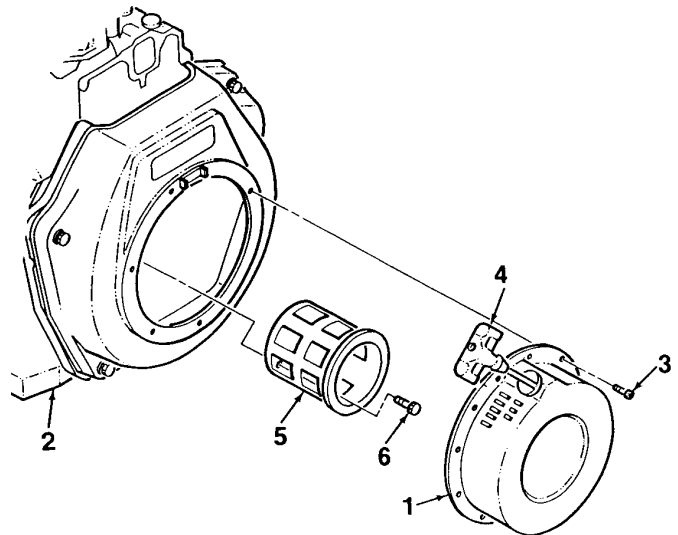

Figure 3-2. Recoil Starter Removal
1. Remove recoil starter assembly (1, Figure 3-2) from flywheel housing (2) by removing four screws (3).
2. Remove plunger (5) from cylinder block by removing three screws (6).
1. Inspect recoil starter assembly (1, Figure 3-2) and plunger (5) for cracks, deformation, or obvious damage. Replace case if damaged.
2. Inspect starter rope for cuts, tears, or frayed strands. Ensure tee handle (4) is securely attached. Replace starter assembly if any component is damaged.
1. Install plunger (5, Figure 3-2) into cylinder block using three screws (6).
2. Mate recoil starter assembly (1) to flywheel housing (2) and secure using four screws (3).